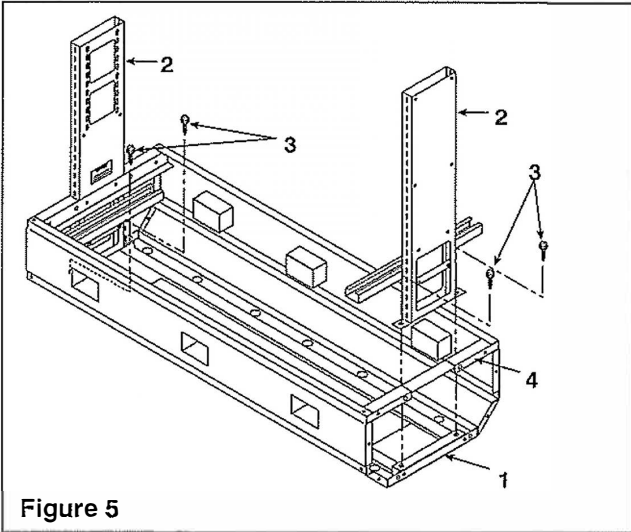

Figure 5
(Refer to Fig. 5)
6. Refer to Fig. 5 & 6. Repeat Steps 1-5 for attaching a riser at the opposite end of the body unit (1).